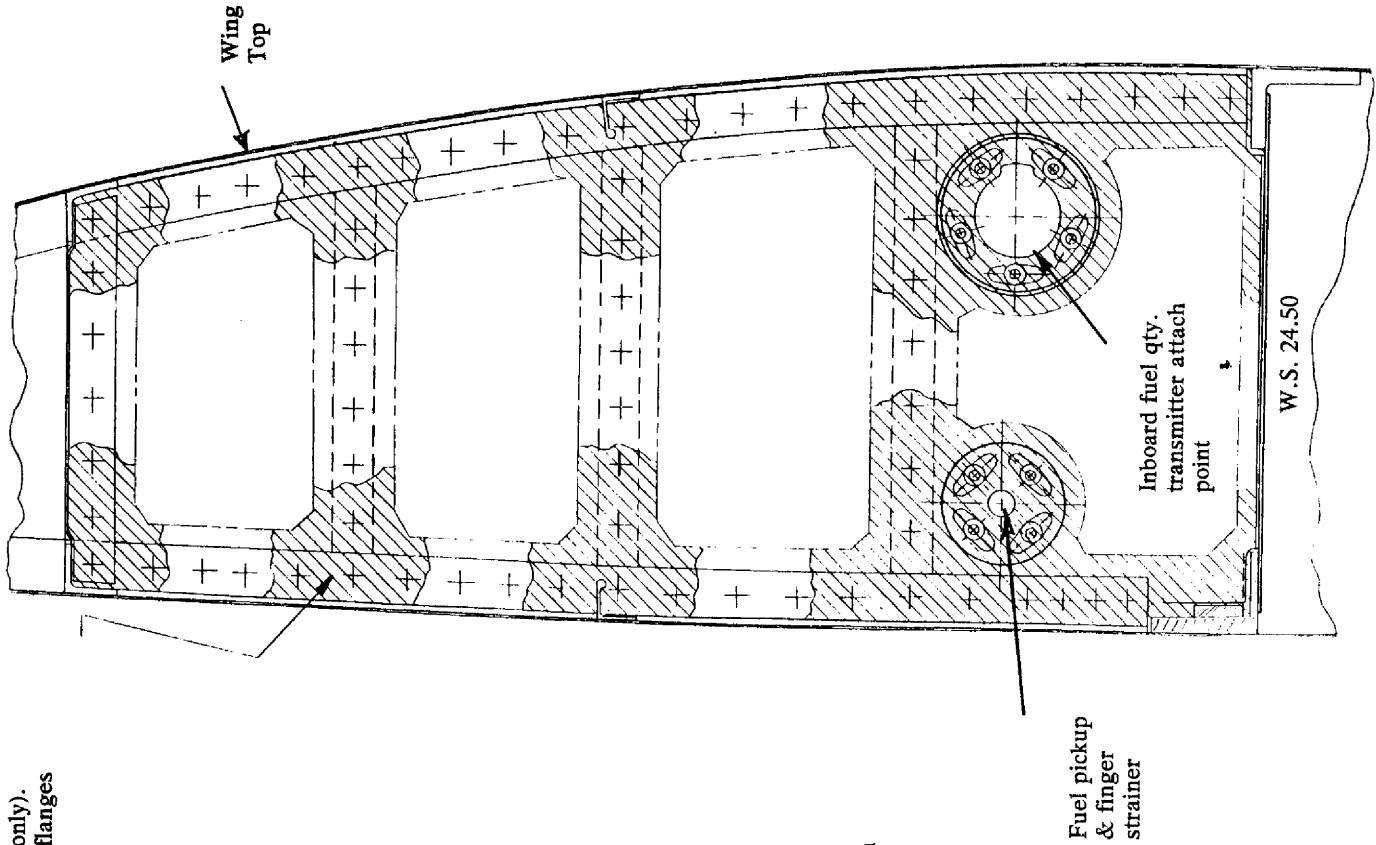

FIGURE M20-230-2
4. Inspect each rib station (refer to Figure M20-230-2 thru -7) to determine that all fuel passage holes are open to allow fuel to drain from outboard of rib stations to the fuel tank sump area.
6. If inspection determines all holes are OPEN in the appropriate ribs as shown in figures M20-230-2 thru -7 this portion of inspection is completed. Proceed to Step 8.
7. If inspection determines all holes are NOT OPEN in the appropriate ribs as shown in Figure M20-230-2 thru -7 proceed as follows: